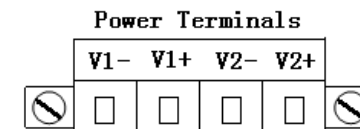

Figure 3
5.0 Power Terminals Assignment (Figure 3)